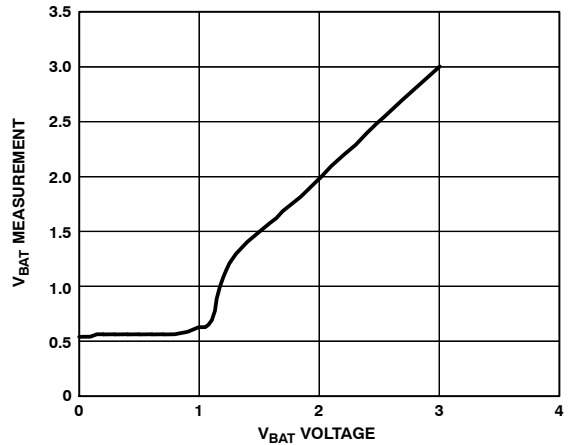

Figure 14. VBAT Measurement vs. Voltage
4. Total unadjusted error (TUE) includes offset, gain, and linearity errors of the ADC, multiplexer, and on-chip input attenuators.  $V_{BAT}$  is accurate only for  $V_{BAT}$  voltages greater than 1.5 V (see Figure 14).